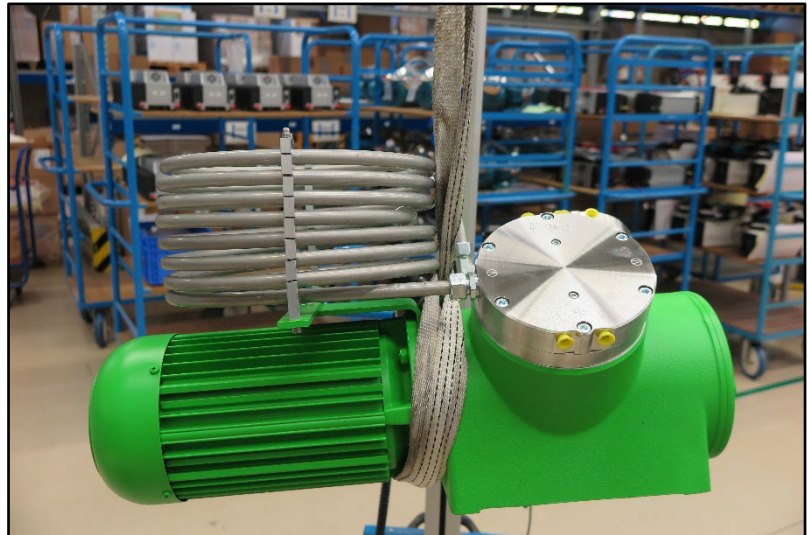

Fig. 5:
2. Fix the harness between compressor housing and motor (Fig. 5).